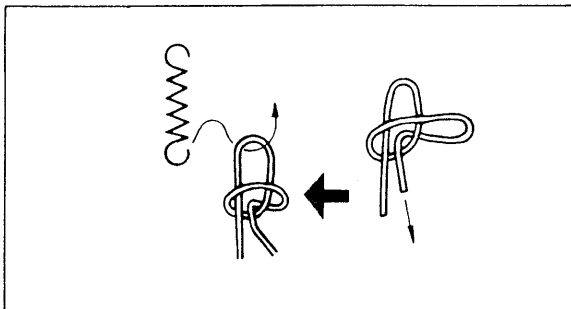

Fig. 2-5. Tying square knot in the coil spring
3. Tie the end of the cord to a spring as shown in Fig. 2-5.